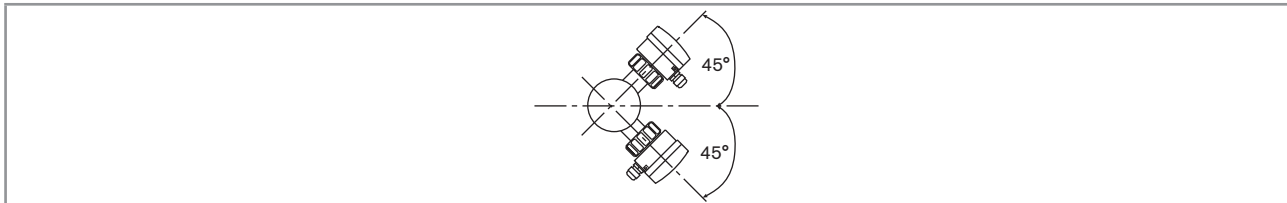

Fig. 4 : Mounting angle on the pipe
- Preferably install the device at a 45° angle to the horizontal centre of the pipe to avoid having deposits on the electrodes and false measurements due to air bubbles (see Fig. 4);